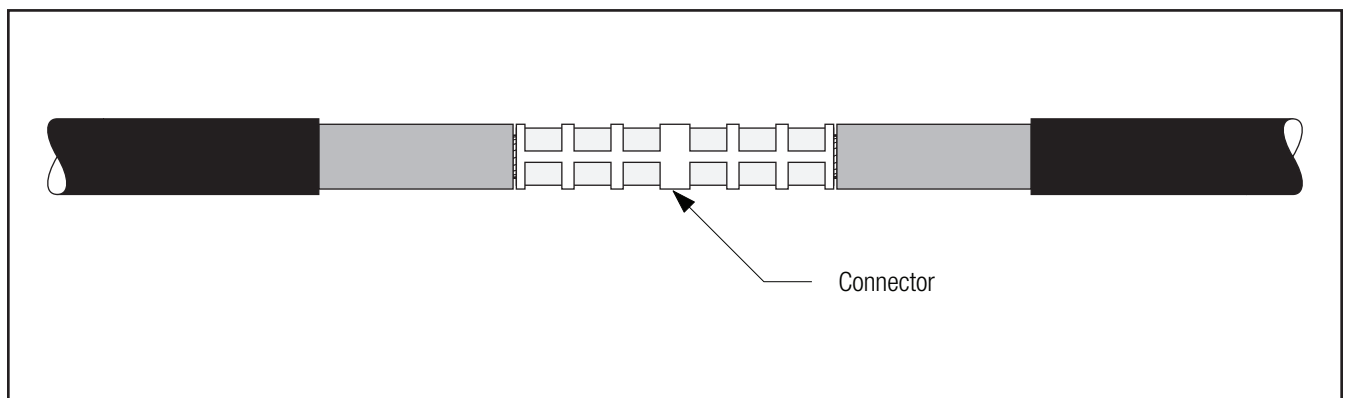

Figure 12
- 3.5 Install connector. See table (on cover) for proper connector dimensions. (For standard 3M™ Connectors, refer to table at the end of this instruction for crimping information). Remove any excess oxidation inhibitor from connector ends if aluminum connector is used. File sharp connector flashing if necessary, taking care to remove all metal filings from splice area (*Figure 12*).